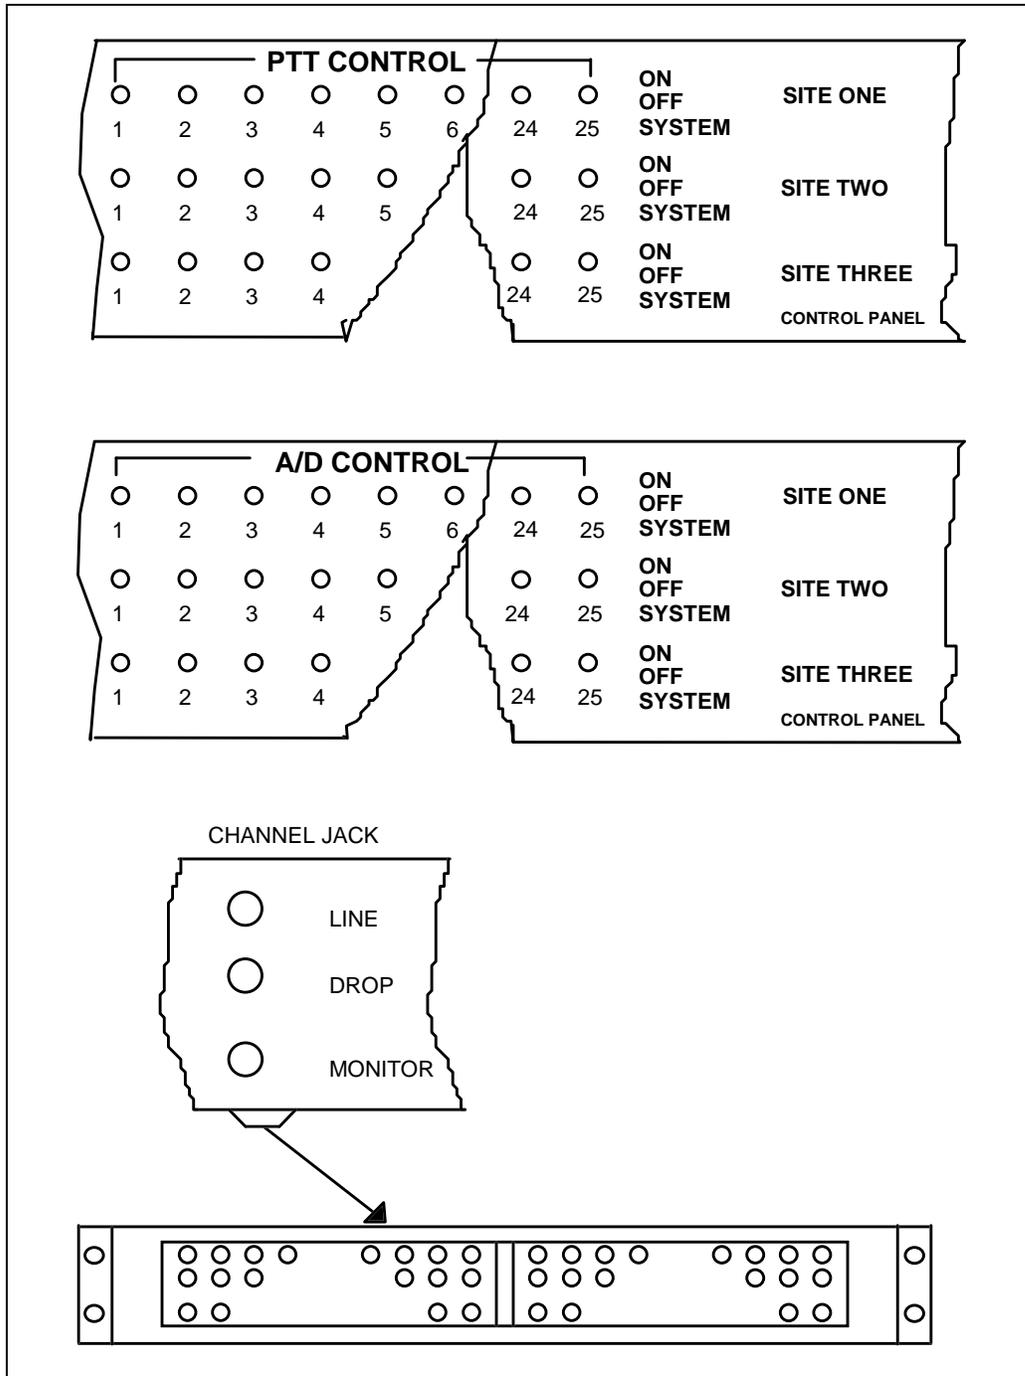

Figure 4. Jackfield And Control Panel Detail
1. On the control panel, set the following switches (See Figure 4).